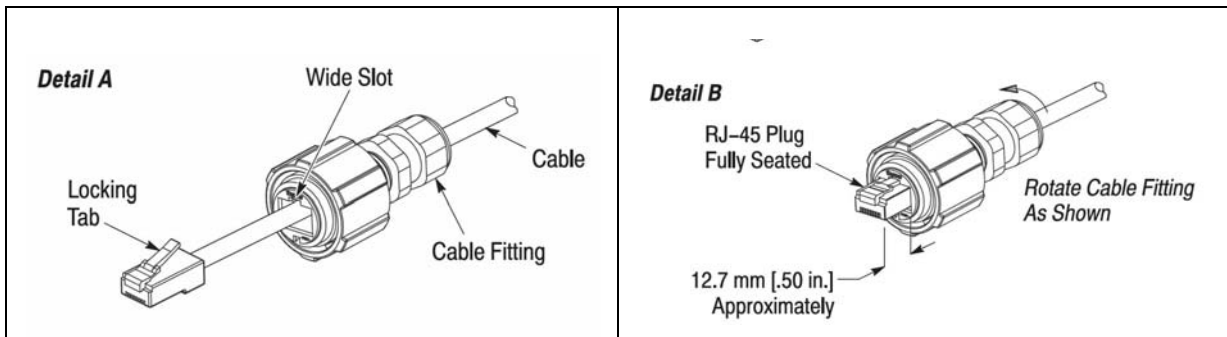

Figure D-7: Assembly Detail
1. Align the locking tab of the RJ-45 plug with the wide slot at the front (end opposite the cable fitting) of the plug assembly. See Figure D-7, Detail A.
2. Depress the locking tab, and insert the RJ-45 plug into the plug assembly. Gently pull the cable until the RJ-45 plug is fully seated. There should be approximately 12.7 mm [.50 in.] of the RJ-45 plug protruding from the front of the plug assembly. See Figure D-7, Detail B.
3. While holding the RJ-45 plug in position, rotate the cable fitting as shown in Figure D-7, Detail B until tightened to a torque of 1.7-2.8 N-m [15-25 lb-in.].